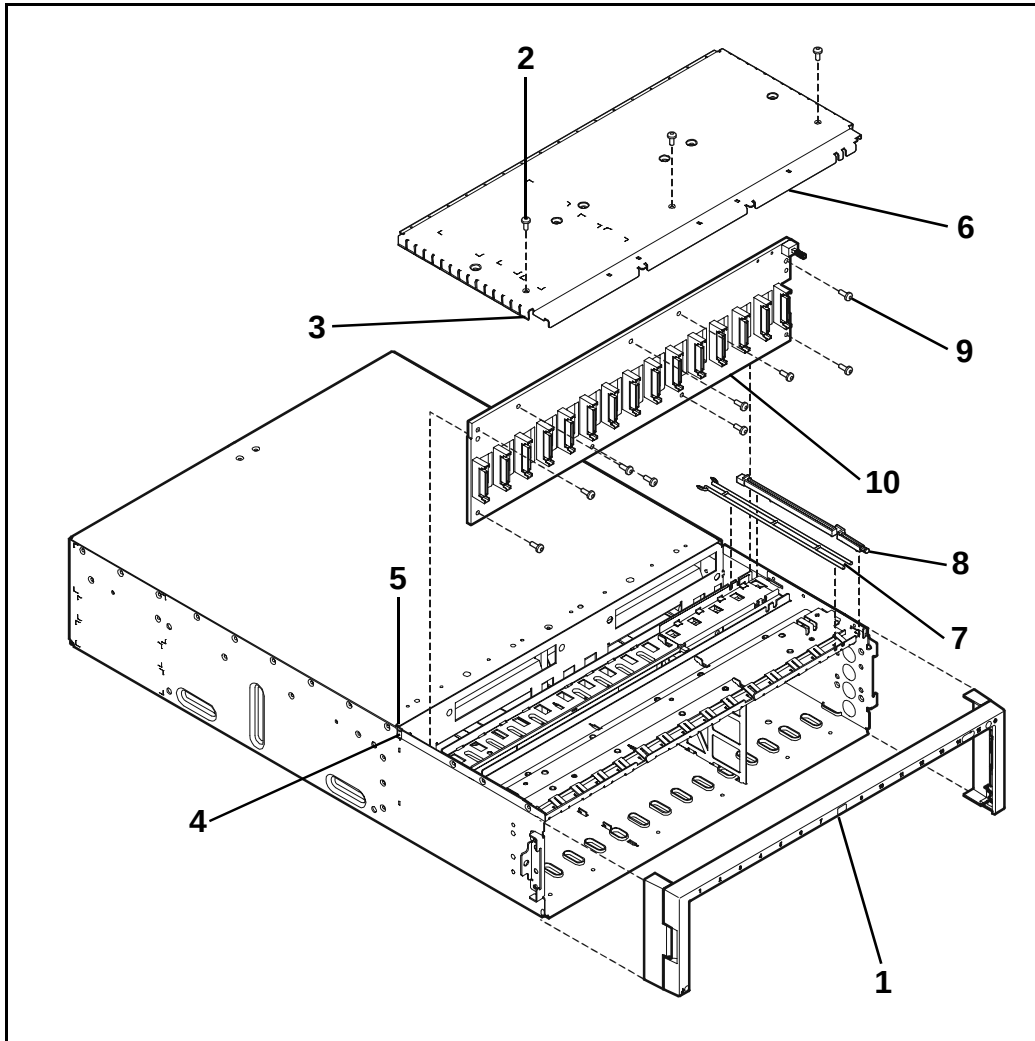

Figure 39 Removing & Replacing a Midplane Assembly
6. Remove the front bezel (Figure 39, 1).
7. Remove three T-10 screws (2) from the chassis top cover (6).
8. Using a flat-blade screwdriver, push up the two front top-cover side-clips (3) and pop the top cover up slightly.
9. Twist the screwdriver blade in the rear gaps (4) on the side of the chassis, directly behind the top cover.
10. Place a screwdriver blade in a vertical position in the slots (5) on top of the chassis directly behind the top cover. Hit the handle of the screwdriver with the palm of your hand until the top cover moves forward 3/16 inch (0.5 cm).
11. Slide the top cover (6) off the chassis.
12. Lift the lightpipe (7) out of the chassis slots and remove it from the chassis.
13. Press the power/standby switch shaft (8) all the way in and remove it from the chassis.
14. With the T-15 driver provided in the midplane assembly kit, remove 9 screws (9) from the midplane assembly.
15. Remove the midplane assembly (10) from the chassis.